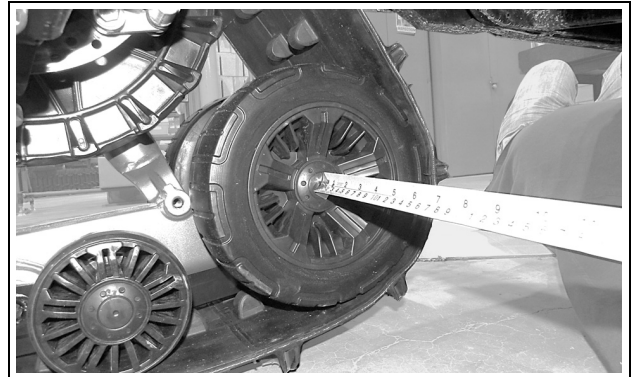

Figure 25
**Measure B:** Measure the distance between the rear inside Ø241 mm tires of the front Track Systems. See Figures 25, 26 and 27.